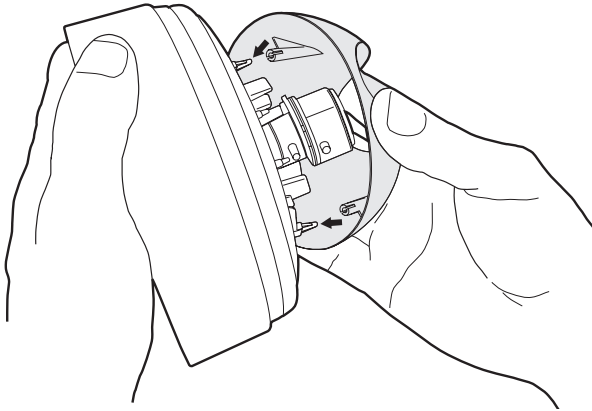

Figure 17. Installing the Liner
1. To install the liner with a clear bubble (refer to Figure 17):